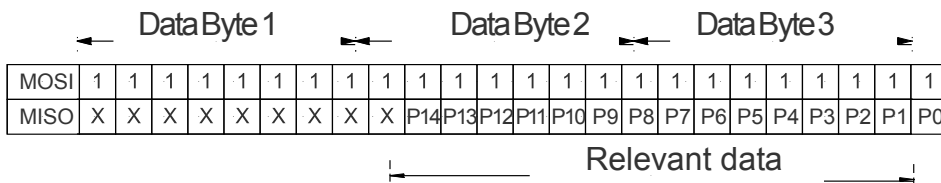

Fig. 2: 3 byte data stream between HCE sensor and master containing the pressure value as a 15 bit information
**DATA operation:** The MOSI line should always be set to high level. So there is no data transmission from master to slave. Because of internal configuration the slave will answer the first byte with an FFxh. The second and third byte contain the 15 bit pressure information (see Fig. 2).